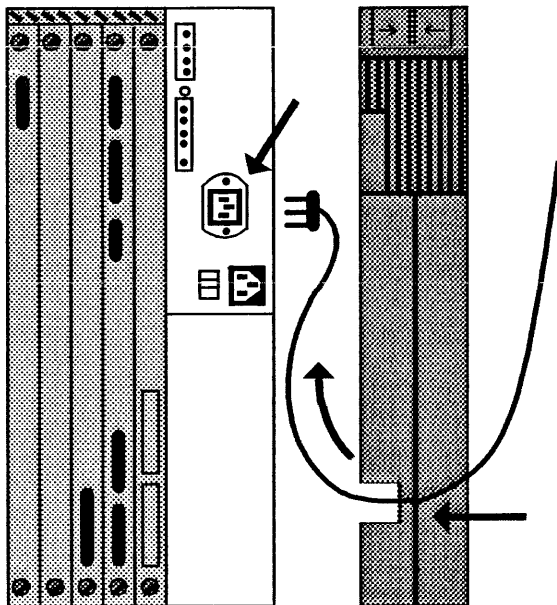

Figure 26. Connecting the Display Power Cord to the Processor Unit
NOTE: The illustrations in Figures 26 and 27 do not accurately depict the location of the rear cover.
4. Route plug end of the display power cord through the cutout in the rear cover and connect it to the processor unit (Figure 26).